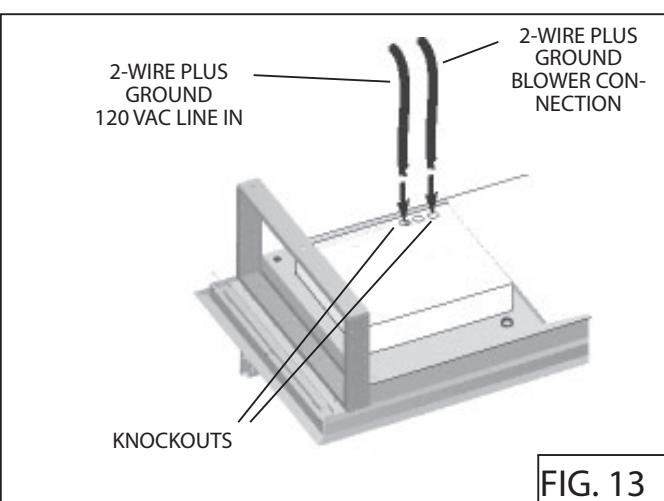

FIG. 13
- Run 2-wire plus ground power cable to a  $\frac{3}{4}$ " knockout located on the back of the hood. Fig. 13.
- Run 2-wire plus ground, 120 VAC electrical power cable to a  $\frac{3}{4}$ " knockout located on the back of the hood. Fig. 13.